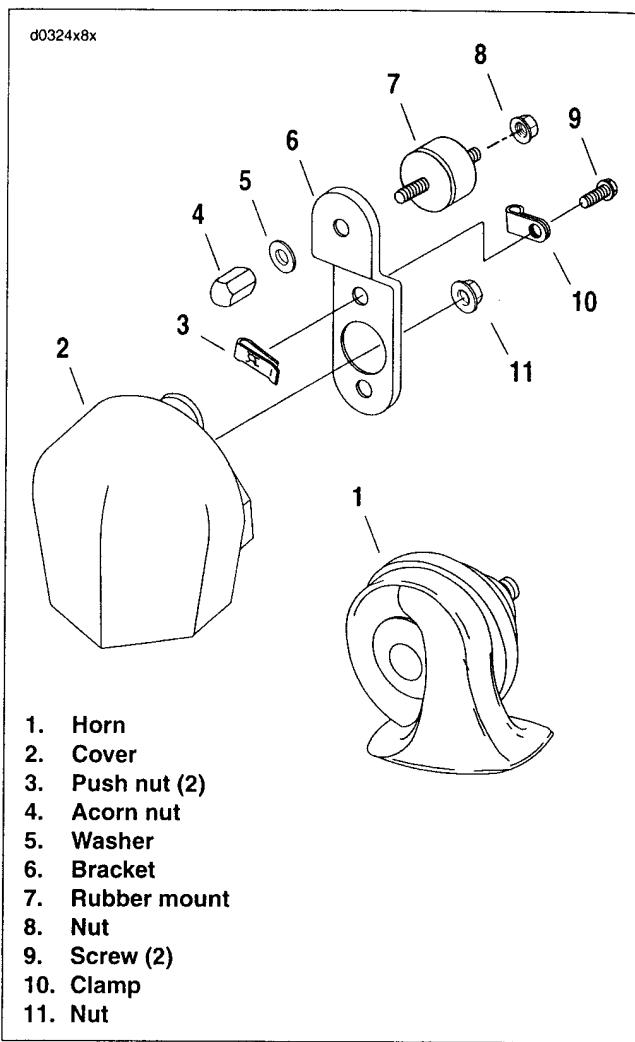
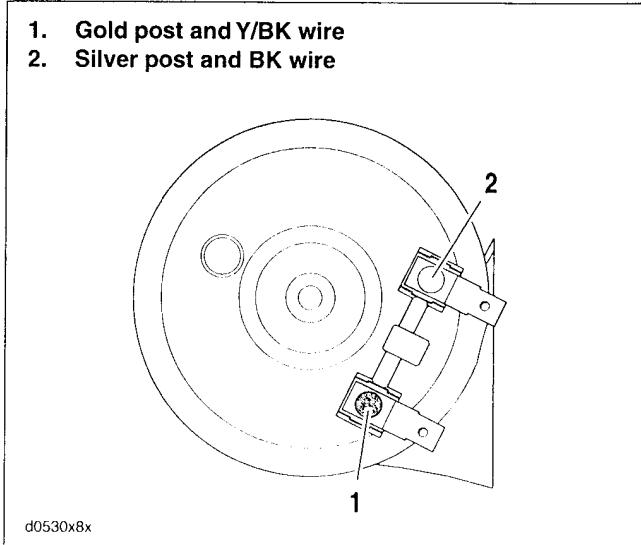

Figure 8-68. Horn
Figure 8-69. Horn Wiring
1. See Figure 8-68. Remove nut (4) and washer (5) to detach horn bracket (6) from vehicle.
2. See Figure 8-69. Disconnect wires from posts (1, 2) on back side of horn.
3. See Figure 8-68. Remove screws (9) and nut (11) to detach horn from bracket. Free wires from clamp (10).
4. Install **new** horn on bracket. Secure with screws (9), push nuts (3) and nut (11). Fold wires under clamp (10).
5. See Figure 8-69. Attach wiring.
- a. Connect Y/BK wire to gold post (1).
- b. Connect BK wire to silver post (2).
6. See Figure 8-68. Attach horn to vehicle using washer (5) and nut (4). Tighten nut to **80-100 in-lbs (9-11 Nm)**. When tightening fasteners, be sure the horn does not contact the horn cover or other parts.